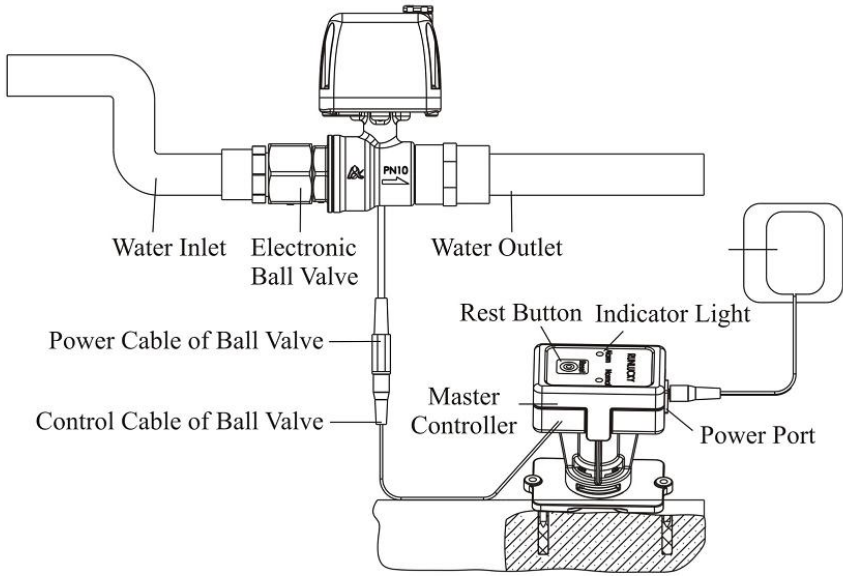

Figure 7
①. Wiring of single detection point, as Figure 7 shows.